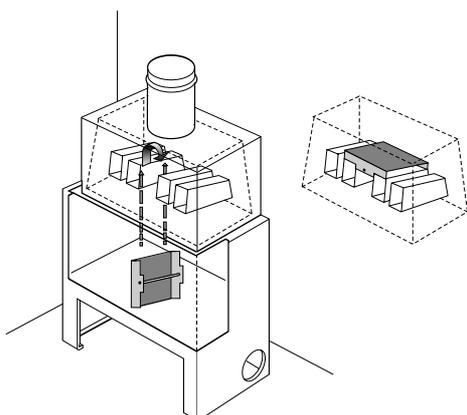

Fig. 5.9.2
5.9.2 Montaggio deflettore fumi (tranne L 45) (Fig. 5.9.2)
5.9.2 Smoke deflector installation (except for L 45) (Fig. 5.9.2)
5.9.2 MONTAGE DES RAUCHLEITBLECHES (AUSSER L 45) (ABB. 5.9.2)